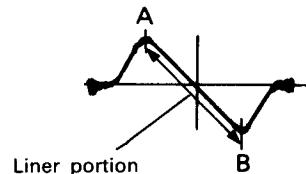

Fig. 22
- Note 2: Cause and S curve to appear on the screen by FM IFT as shown in Fig. 22, and adjust it until points A and B are positioned symmetrically, and the A-B line becomes liner.